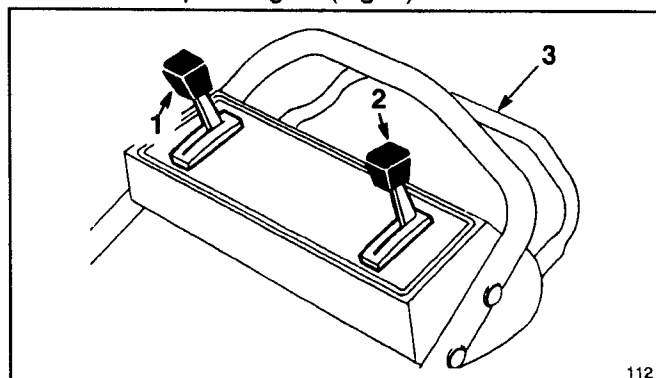
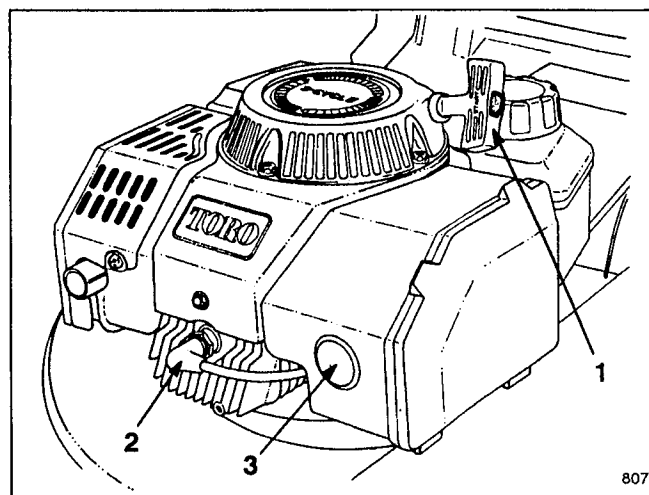

Figure 7
Figure 8
CONTROLS—Throttle, ground speed control and self-propelled control bar are on upper handle (Fig. 7). Primer is on front of engine, and fingertip starter is on top of engine (Fig. 8).
- Push spark plug wire onto spark plug (Fig. 8).
- Move ground speed control to "N" (Fig. 7).
- Cover hole in center of primer (Fig. 8) with thumb and push two times.
5. **TRACTION OPERATION** (Fig. 7)—Ground speed varies, depending on space between control bar and handle. Move ground speed control to desired setting. Number "1" is slow, "2" is medium, and "3" is a fast walking pace. Move ground speed control to "N" when using the mower for trimming and whenever leaving the mower.
6. **STOPPING**—Release control bar (Fig. 7) to stop traction drive. Move ground speed control to "N". To stop engine, move throttle to OFF. Pull wire off spark plug if mower will be unattended or not used.
1. Stop the engine and wait for all moving parts to stop. Pull wire off spark plug (Fig. 8).